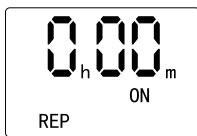

Figure 6-1
- Press and hold the REP button for 3s until the number on the screen flashes to enter the ON duration setting, as shown in Figure 6-1.